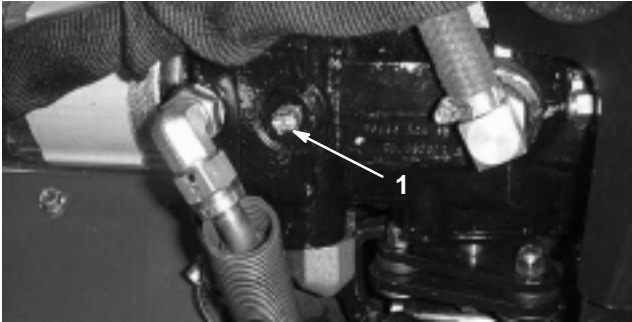

Figure 36
1. Locate the bypass valve on the pump (Fig. 36) and rotate it 90° (the bypass valve lever should be horizontal when it is open).